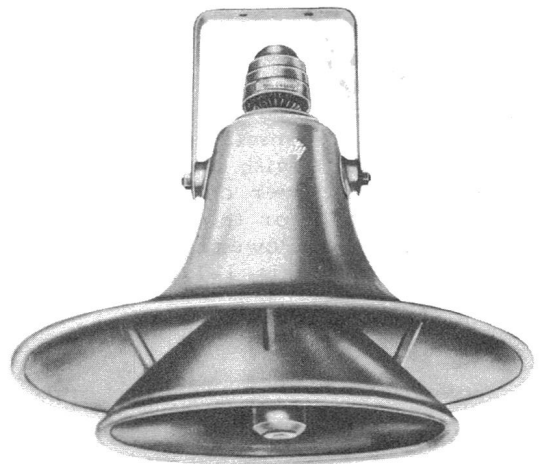

Figure 56 - University RPH
3.74 The University RPH loudspeaker is a radial reflex projector giving uniform 360° horizontal dispersion. When used with the University SA-30 transformer it will deliver 30 watts of power. Total weight is 26 pounds. It is useful in large industrial applications where high ceilings exist and general construction is steel, concrete, or sheet iron. This loudspeaker is shown in Figure 56.